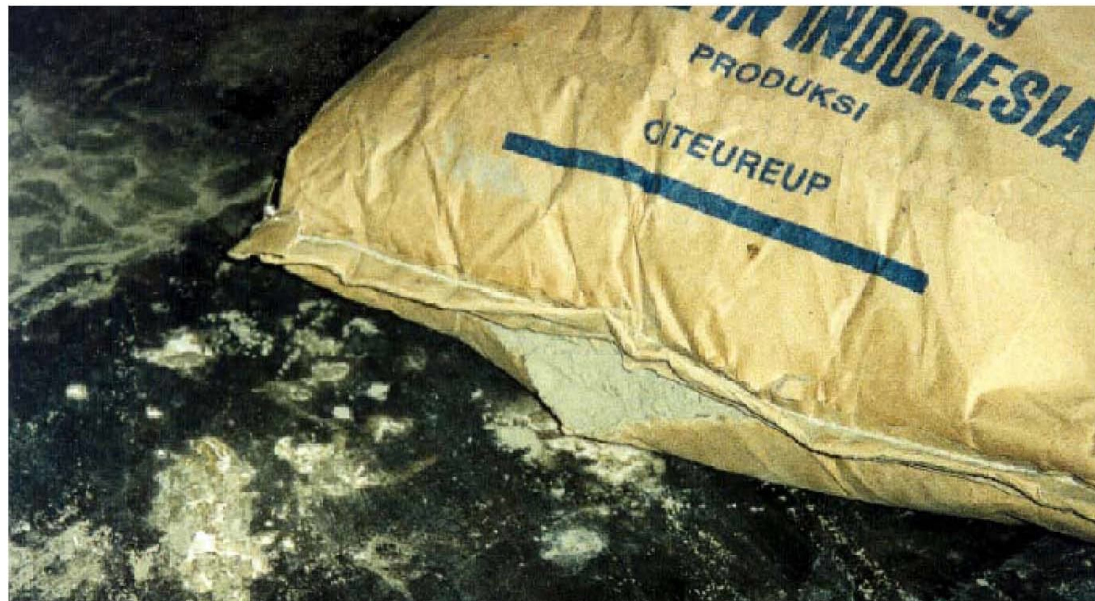

Figure 1.5 Break of a sack filled with cement.
- *Example 4)* Sacks are expected not to break during filling, transportation and end-use. In the worst case the sack breaks which is shown in the following *Figure 1.5*.